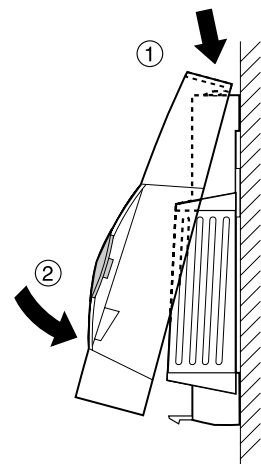

Fig. 13: Placing housing cover in position
- ▶ Place the housing cover in position above and snap it down (see Fig. 13).
- Place the housing cover in position above and snap it down (see Fig. 13, Page 6).
- Place the housing cover on at the top and latch it in downwards (see Fig. 13, Page 6).